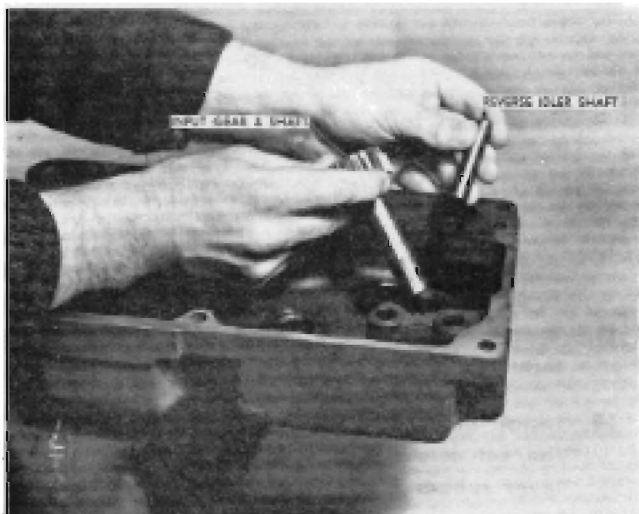

FIGURE 14
1. Install the input shaft and gear, and reverse idler shaft, as shown in Figure 14.